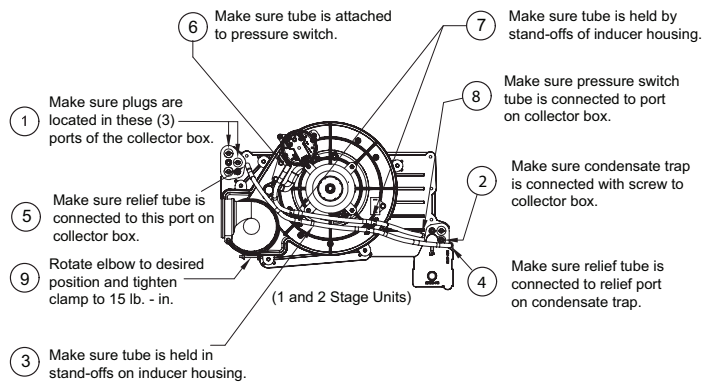

Fig. 6 – Downflow Trap Configuration
When the furnace is installed in the downflow position, the condensate trap must be initially located at the lower right corner of the collector box, as received from the factory. See Fig. 6.
- Fig. 6 shows the condensate trap and tubing.